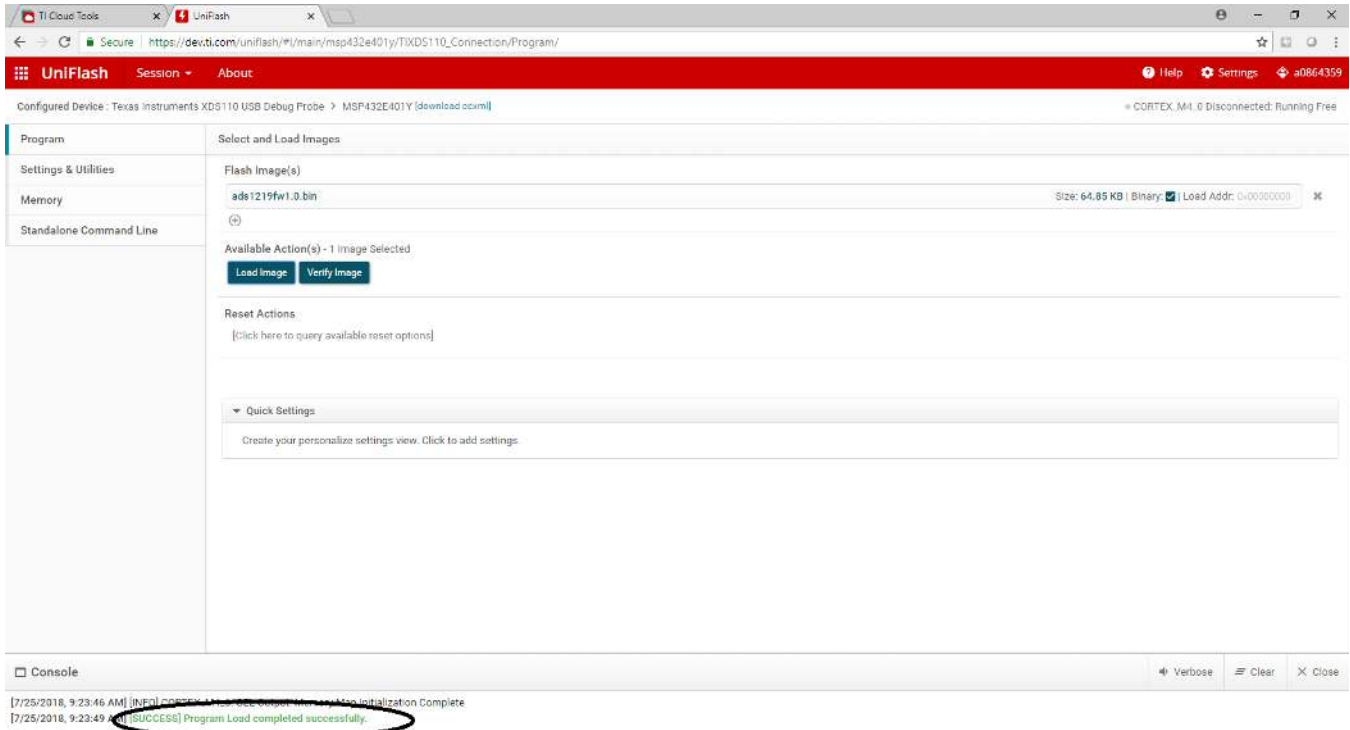

Figure 11. UniFlash: Successful Download
- The console at the bottom of the UniFlash window shows the result of the loading process. The correct response is *[SUCCESS] Program Load completed successfully*, as shown in Figure 11. If this response is not shown or an error message is displayed try the *Load Image* button again. You may have to unplug and plug the USB cable to the LaunchPad™ again to reset communication.